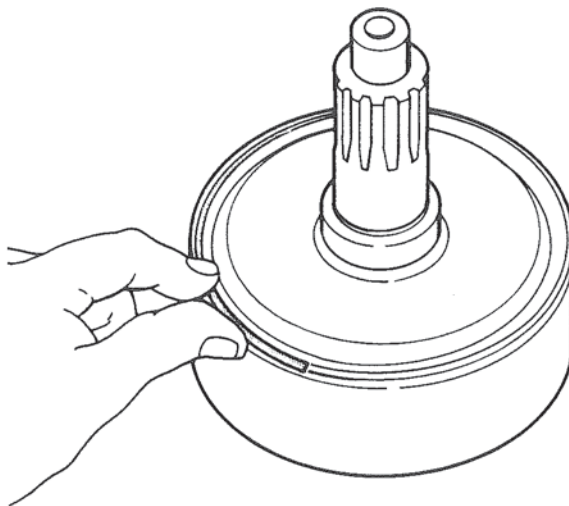

Figure 28. Installing Ring Gear Snap Ring.
1. Install reduction unit main shaft in ring gear. Figure 28. Assembly is complete when the snap ring groove is fully exposed.
2. Install ring gear snap ring in exposed snap ring groove. Figure 28. Tap ring with suitable tool to seat in groove.